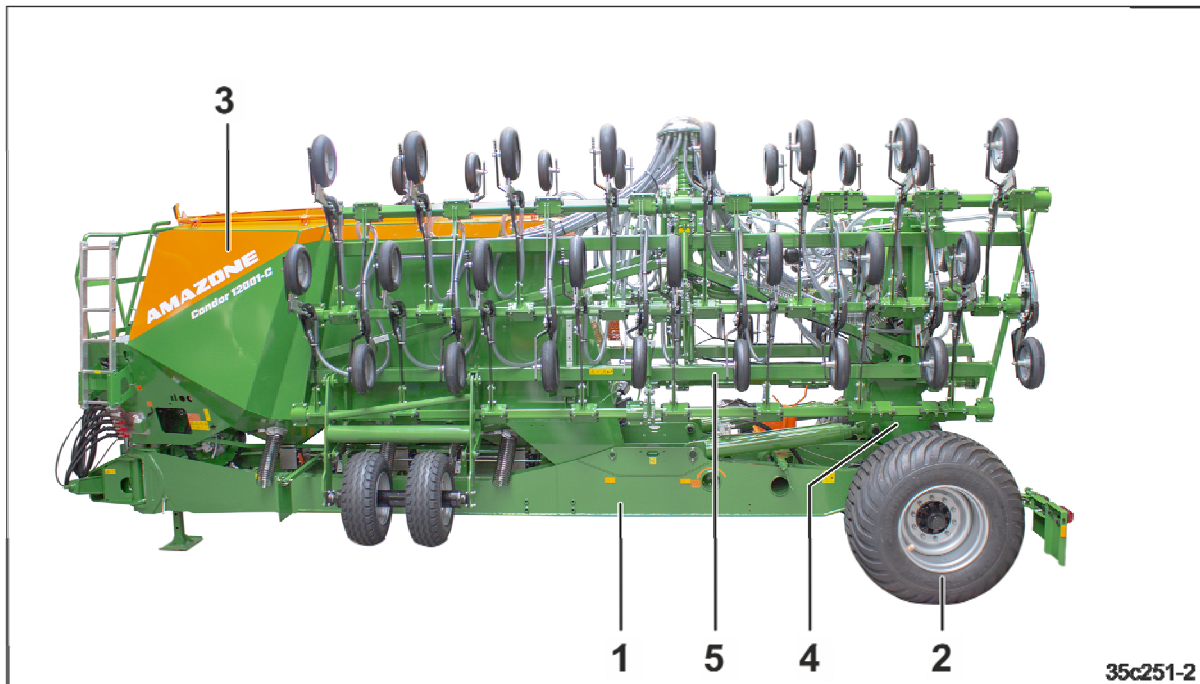

Fig. 37
- a main frame (Fig. 37/1) with running gear (Fig. 37/2) and hopper (Fig. 37/3).
- a foldable rear frame (Fig. 37/4)
- two implement sections which are retractable for transportation purposes (Fig. 37/5).